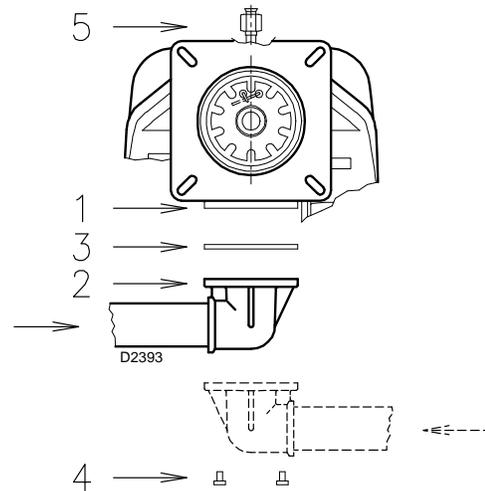

Fig. 19
- The gas train can enter the burner from the right or left side, depending on which is the most convenient, see Fig. 19.
- The gas train must be connected to the gas attachment 1) (Fig. 19) with the flange 2), the gasket 3) and the screws 4) supplied with the burner.
- The pilot gas train must be connected to the gas attachment 5) (Fig. 19) and can enter the burner from the right or left side.